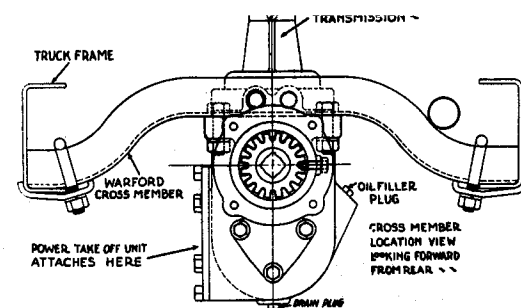

Fig. 8
screws. **TIGHTEN UP HARD.** Next, assemble the Warford Cross Member. See Fig. 8 to the Warford Transmission using the two 1/2 inch bolts with their lock washers and nuts as furnished with the Warford transmission. Draw these bolts up tight and hard. Be sure that the hole in the flange of the Warford Cross Member is **TOWARD THE FRONT** so that the shifter rod will pass into it properly in the "underdrive" position. Next, clamp the cross member to the Ford frame with the plates and U-bolts, securing the nuts with the lock washers permanently. See Fig. 8.
9. Remove the oil filler plug on the right hand side of the Warford transmission case—See Fig. 8—, USE OIL GUN filling the case up to the level of the filling hole with 600-W gear oil or equivalent. Never use grease, non-fluid-oil or thick compounded lubricants, as these kind of lubricants will not lubricate the tapered roller bearings used in the Warford transmission.